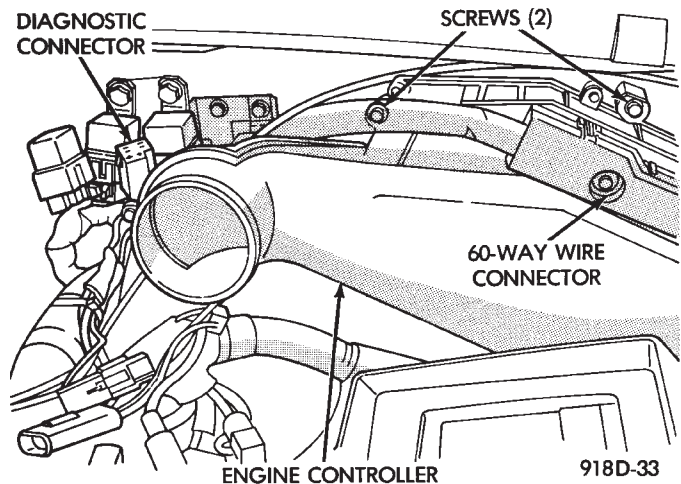
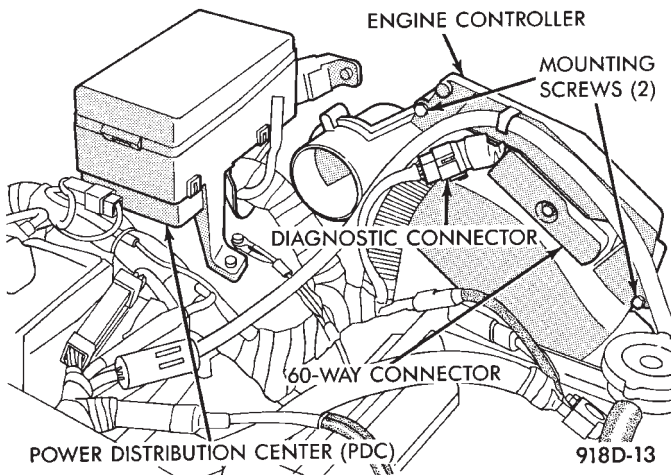
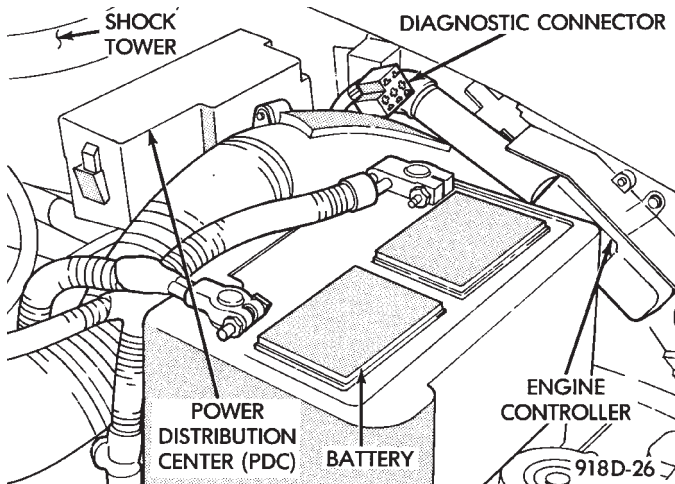

Fig. 19 Engine Controller—AA Body
Fig. 20 Engine Controller—AC Body
Fig. 21 Engine Controller—AG and AJ Bodies
(4) Remove engine controller mounting screws (Fig. 19, Fig. 20 or Fig. 21).
(5) Remove the electrical connector from engine controller. Remove engine controller.
(6) Reverse the above procedure for installation.